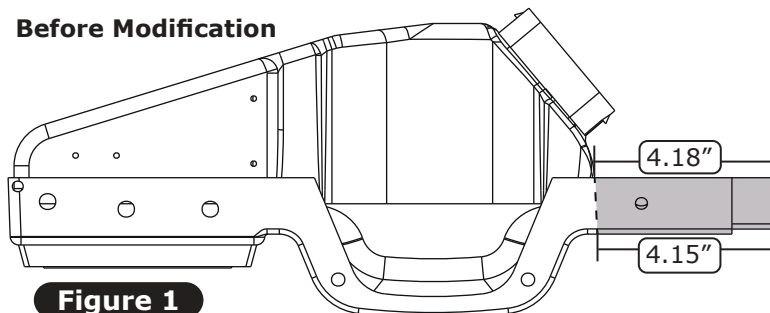

Figure 1
1. The driver-side under dash louver assembly must be modified to clear the 4WD switch. Trim the right side end of the assembly using the provided dimensions (See Figures 1 and 2, below), this is the width of the OEM 4WD switch. Before trimming, verify your OEM 4WD switch dimensions, they may vary. **NOTE: The side wall of the 4WD switch has 2 degrees of draft, consider this when cutting to reduce the gap between the driver-side under dash louver bezel assembly and the 4WD switch (See Figure 3, below).**